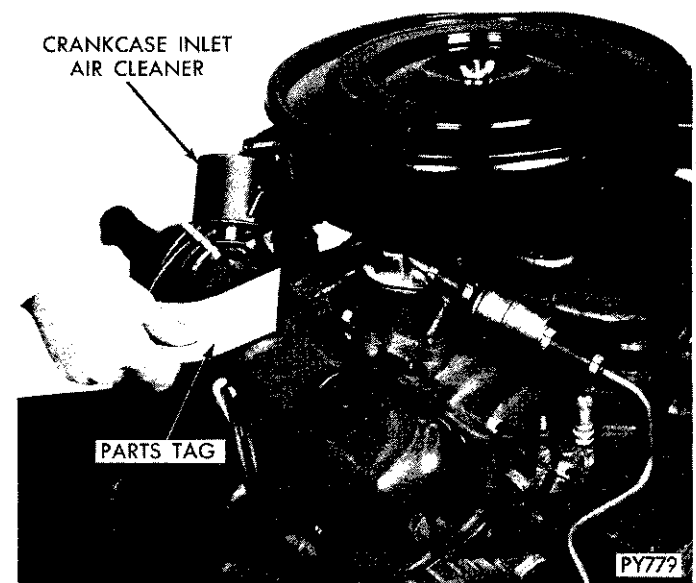

Fig. 18—Checking Vacuum at Crankcase Inlet Air Cleaner Opening
2. Reinstall the ventilator valve, then remove the crankcase inlet air cleaner. Loosely hold a piece of stiff paper, such as parts tag, over the opening in the rocker cover (Fig. 18).